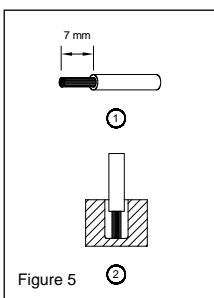

Figure 5
You can use flexible (stranded wire) or solid cables with cross section 0.32-3.3 mm2 (AWG 22-12) and torque of 4.67 Kgf-cm (4.05 lb in). To secure reliable and shock proof connections, the stripping length should be 7 mm (see Fig. 5 (1)). Please ensure that wires are fully inserted into the connecting terminals as shown in Fig. 5 (2).